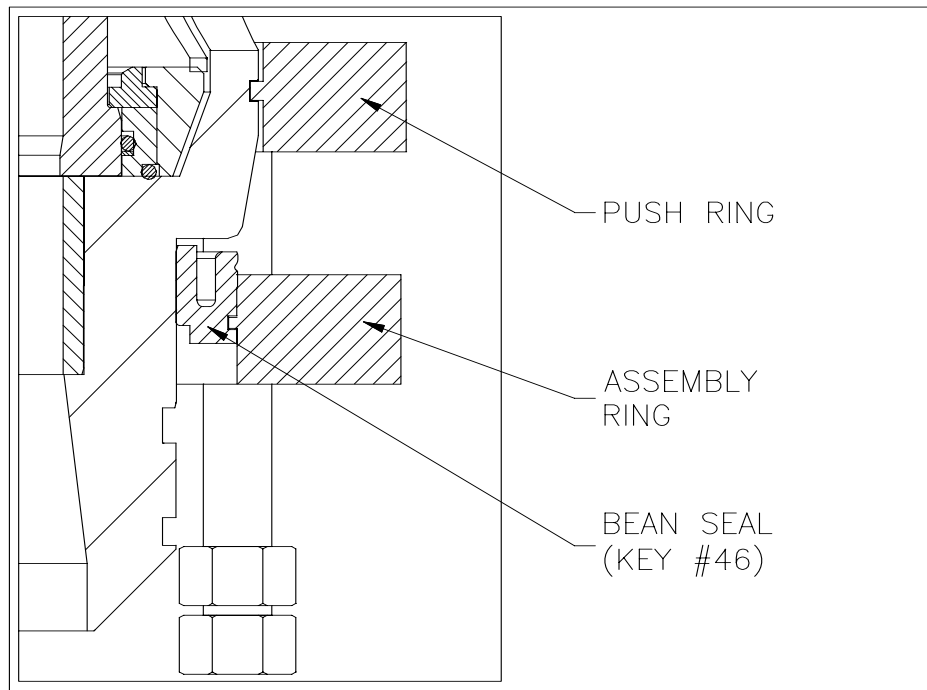

Figure 6.4: Bean Seal Installation
9. Back the 4 nuts on the studs down to the welded nuts. Unthread the 4 studs from the push ring and thread them through the assembly ring against the push ring. Tighten the 4 studs evenly so that the bean seal is pushed off the insert. (See Figure 6.4)
1. Lubricate the area that the bean seal will slide on with Nickel 771 lubricant. Install push ring (P/N: 80522) onto cartridge if required. (See Figure 6.4).
2. Install both segments of assembly ring (P/N 80523) into slot in bean seal (item 46). Secure with capscrews. (See Figure 6.4).
3. Thread the 4 hex nuts (P/N 01017-002) onto the 5/8" studs (c/w welded on nut - P/N 80290). Place the studs through the untapped holes on the assembly ring and thread the studs into the push ring. (See Figure 6.4).
4. Evenly tighten the 4 hex nuts to slide the bean seal onto the insert. Slide the bean seal far enough up so that the buffer guide ring can be installed. (See Figure 6.4).